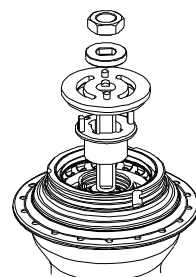

Fig 4
9. Fit the cone ensuring that the two columns of the shift actuator are through the two slots of the cone. Turn the cone clockwise until two spots are parallel with the milling surface of the axle. Locate the cone anchor and screw the cone locknut. (Fig 4)